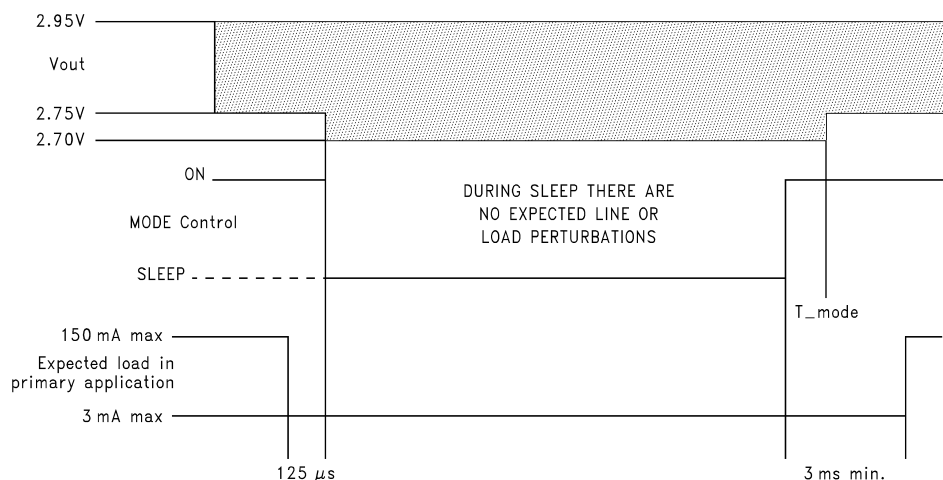
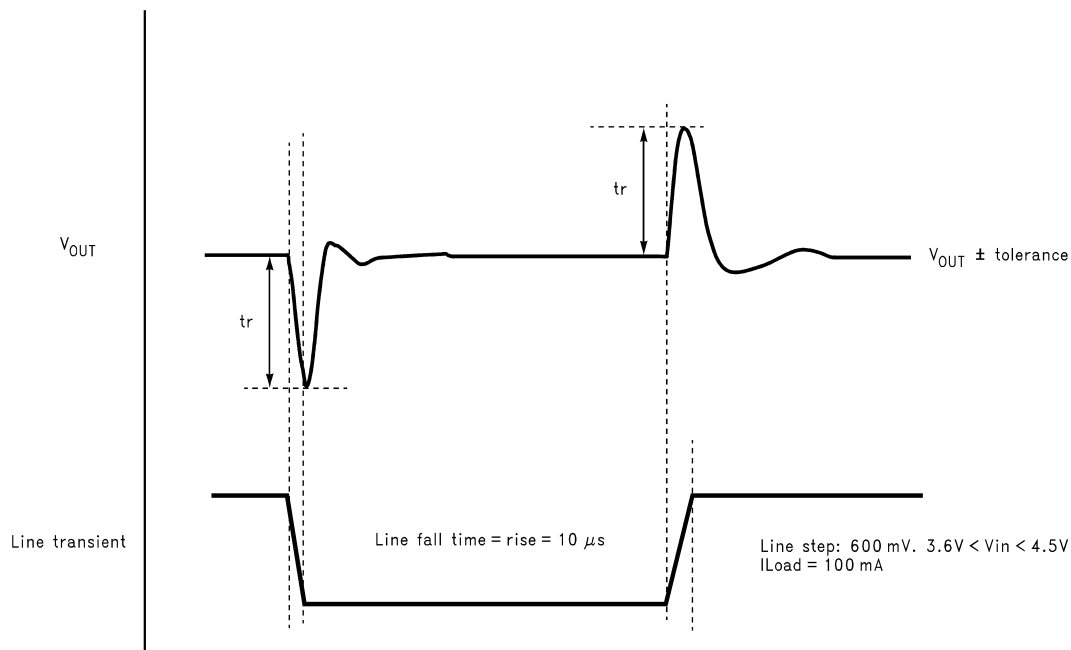

Figure 3.
Figure 4.
- (1) Min and Max Limits are verified by design, test, or statistical analysis. Typical (Typ.) numbers are not verified, but do represent the most likely norm.
- (2) The nominal output voltage, which is labeled $V_{OUT(nom)}$, is the output voltage measured with the input $0.5V$ above $V_{OUT(nom)}$ and a $1mA$ load.
- (3) Dropout voltage is defined as the input to output voltage differential at which the output voltage falls to $100mV$ below the nominal output voltage. V_{IN} less than minimum operating voltage may be used for test purposes.
- (4) On/Sleep Mode voltage tolerance and current capability requirement. See Figure 3.
- (5) This electrical specification is specified by design.
- (6) Line Transient response requirement. See Figure 4.